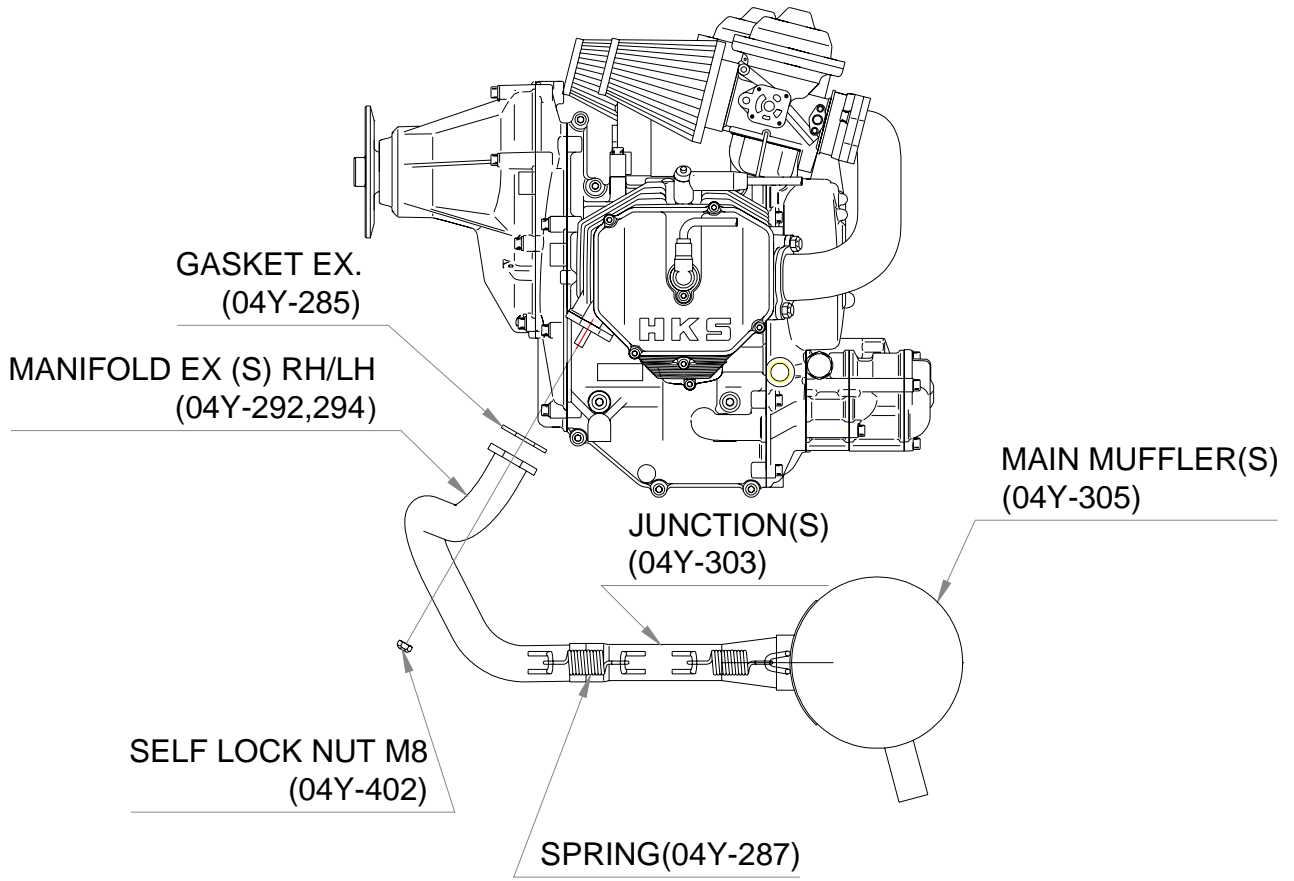

Fig.3 Exhaust System
- To create a custom exhaust manifold, refer to the engine and muffler layout in FIG. 3 for a basic reference.
- Place the exhaust gasket between the exhaust flange and the exhaust port of the engine (refer to Fig.3).